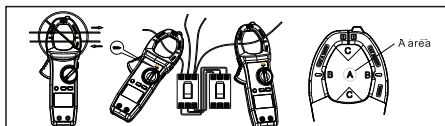

Figure 2
1. AC Current/Motor Inrush Current Measurement (Figure 2 & 3)